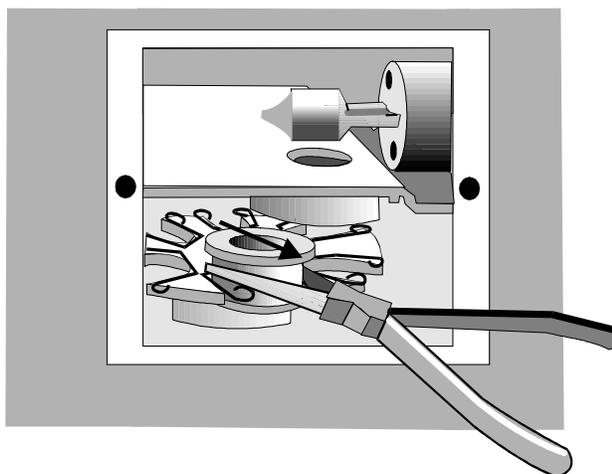

Figure 36. Removing a Filter
4. Firmly grasp the exterior filter housing with a pair of needle nose pliers (Figure 36).